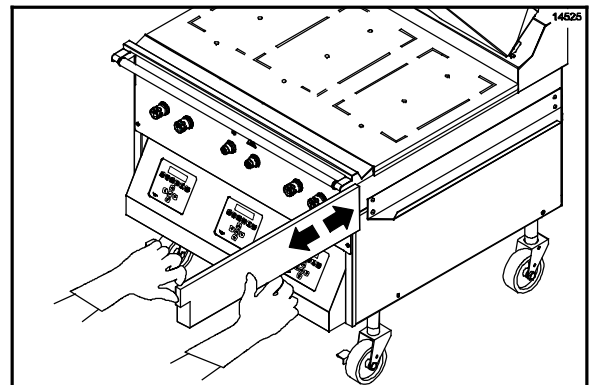

Figure 84
12. Remove, empty, and reinstall the grease pans. (See Figure 84.)